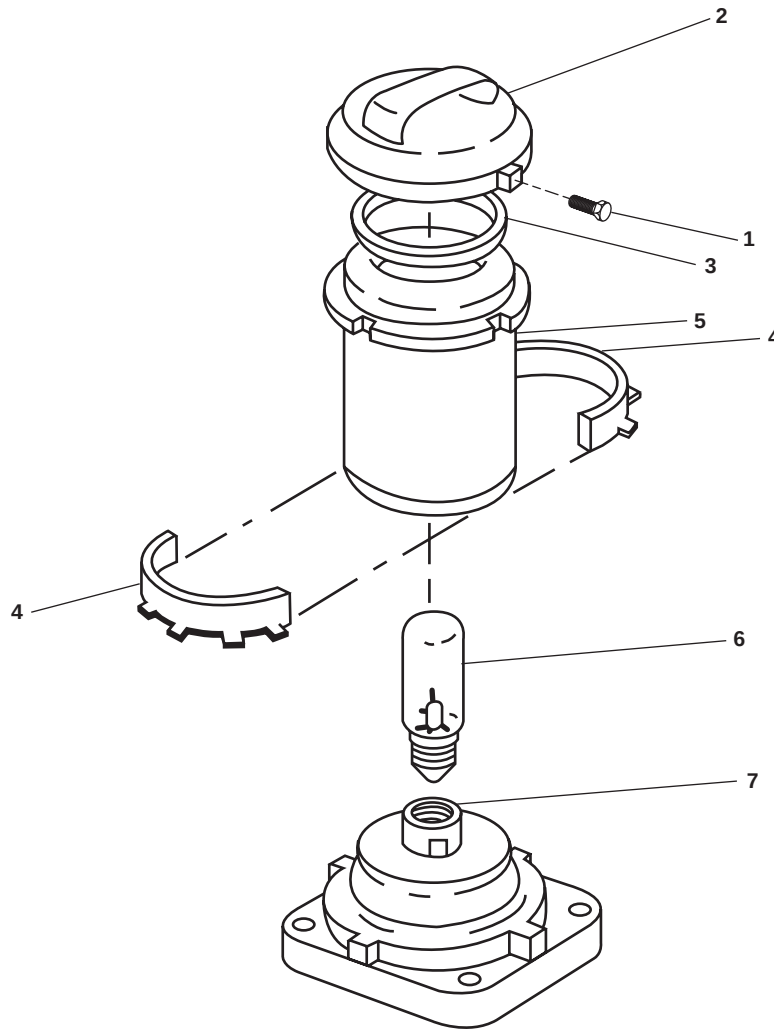

Figure 1. Repair Navigation Light (Single Lens)
1. Loosen the setscrew (figure 1, item 1) and remove the lid (figure 1, item 2) and gasket (figure 1, item 3). Discard the gasket.
2. Remove the clamp (figure 1, item 4).
3. Remove the lens (figure 1, item 5).
4. Remove the lamp (figure 1, item 6) from the socket (figure 1, item 7).
1. Install the new lamp (figure 1, item 6) in the socket (figure 1, item 7).
2. Install the lens (figure 1, item 5) and secure it with the clamp (figure 1, item 4).
3. Install a new gasket (figure 1, item 3) and the lid (figure 1, item 2), securing them with the setscrew (figure 1, item 1).